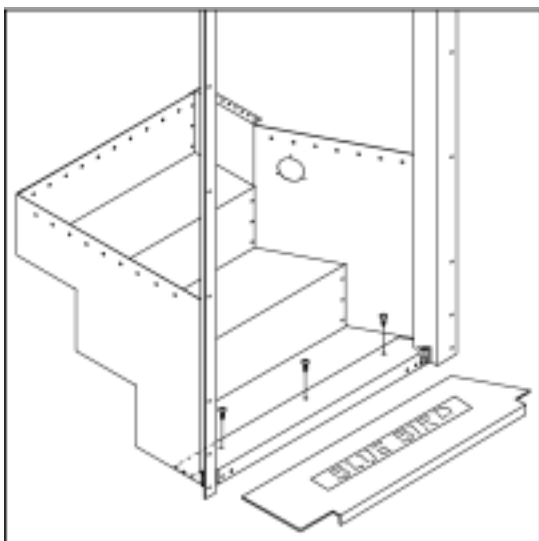

Figure 2—Lower Flange of Door Frame Assembly
5. Remove three screws from lower flange of doorframe assembly. **Figure 2—Lower Flange of Door Frame Assembly.**